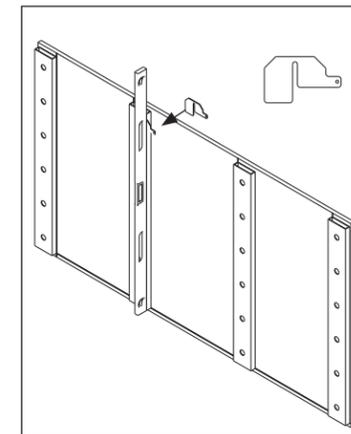

Figure 6: Use Shims between Tube & Wall until Tube Is Plumb
- b. Place the supplied shims to shim between the tube and wall until the tube is plumb. Two thin shims equal one thick shim. Use one thick shim in place of two thin shims to prevent running out of thin shims before the tubes are level. Refer to **Figure 6**.